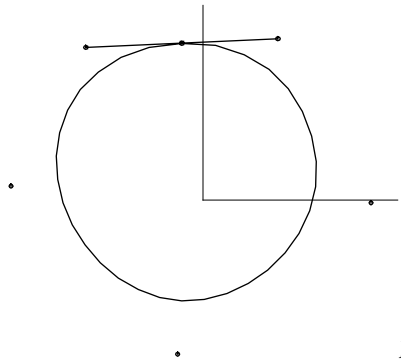

Fig. 4
- 4 Click **OK** (Fig. 4). This should match our distribution model LOOP2.sldprt in Home View.